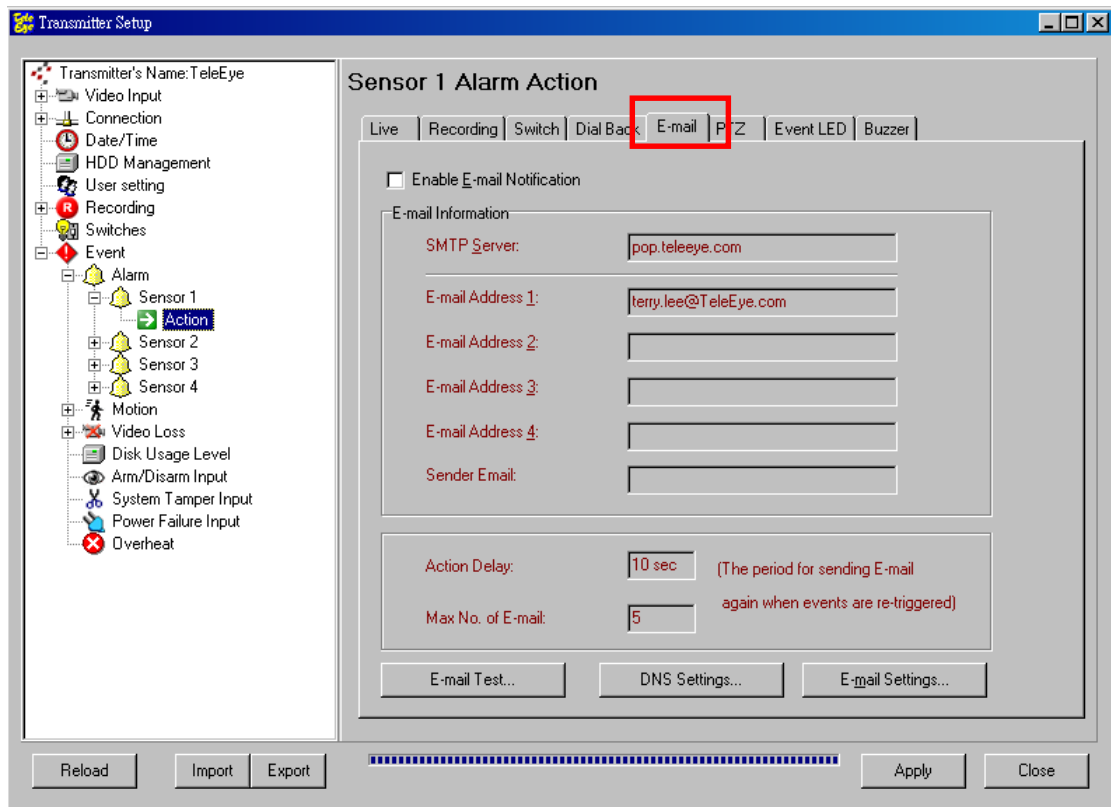

Fig 8.29a
Step 1 : In {Transmitter Setup} panel, click [Event] → [Alarm] → [sensor (No.)] → [Action] → [E-mail] option to setup email as Fig 8.29a.